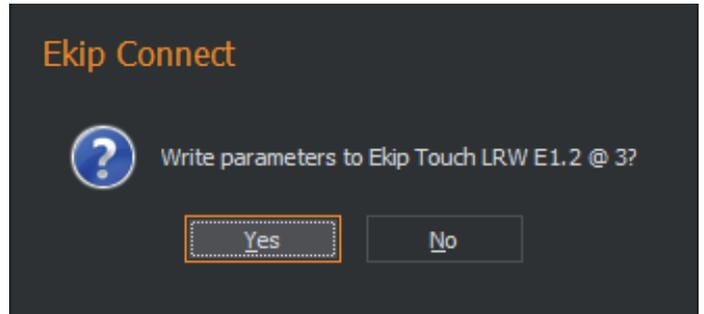

Figure 16 - Ekip Connect change confirmation window
9. A confirmation window will open. Reference Figure 16.